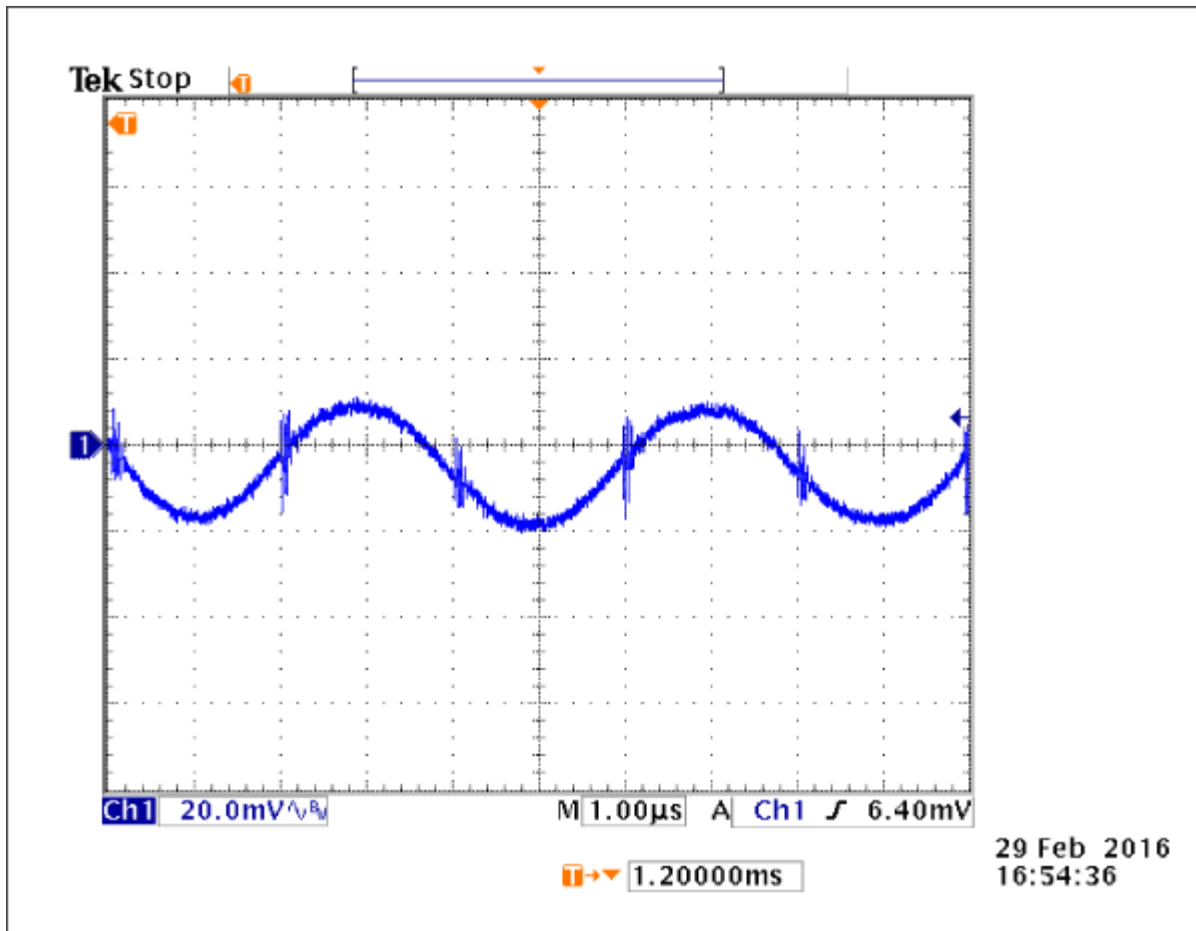

Figure 4. Output ripple at 4A load,  $5V_{OUT}$ .
**Figure 4** displays the load transient response when the load is stepped from 5mA to 1600mA, and then dropped back to 5mA again. The output transient spike is about 240mV. The input is 24V.